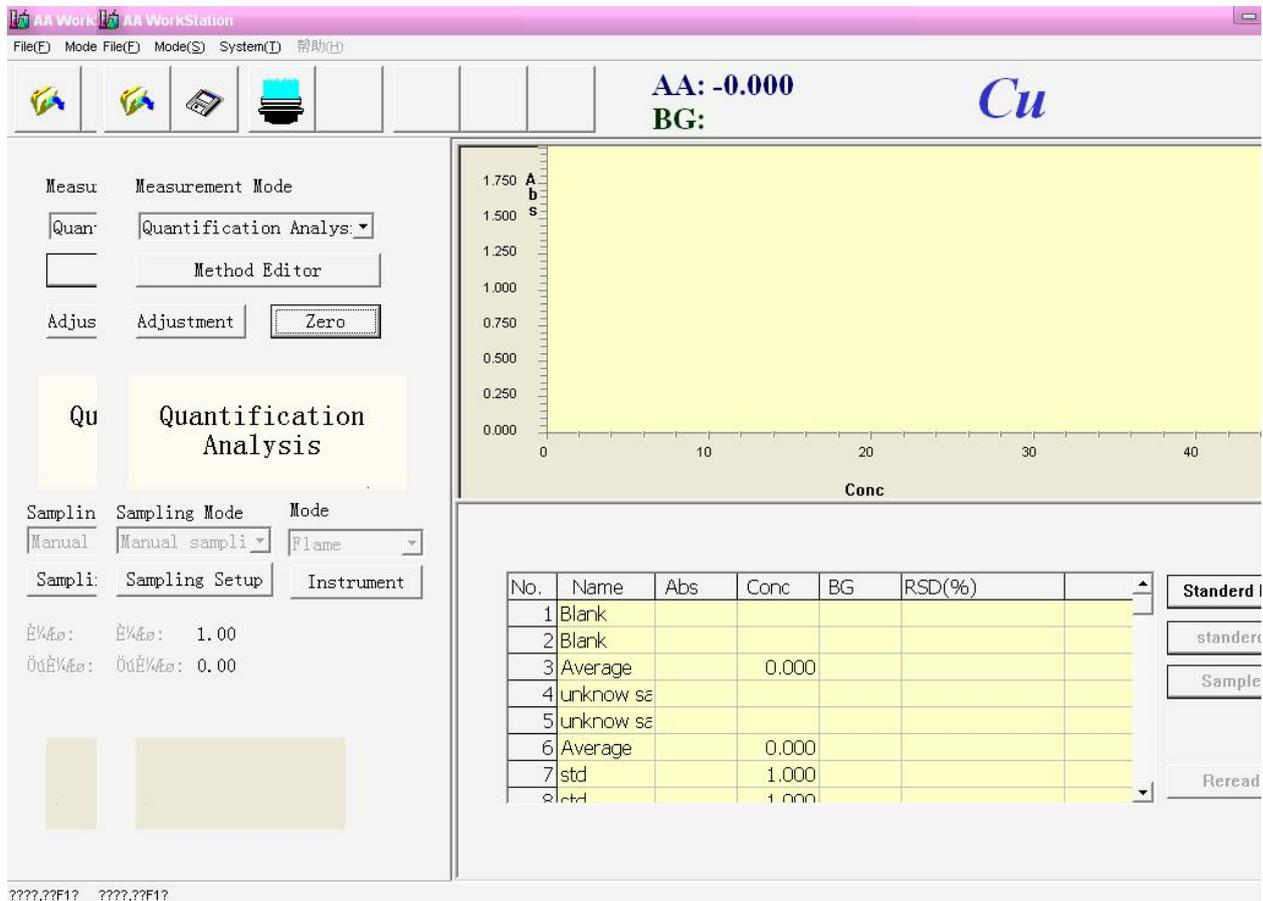

Figure 5-24
9.Spurt and absorb standard blank sample, press **【Standard Bk】** button, shown in Figure 5-24